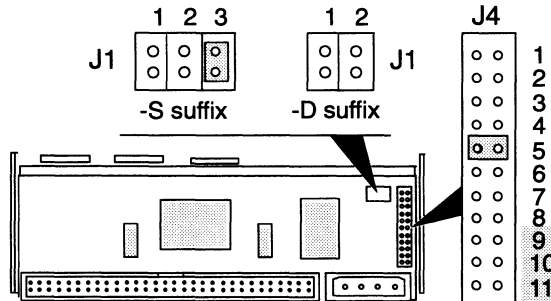

Figure 15 SCSI ID jumper settings and the location of the jumper-pin sets for the Model 61014-S or 61014-D drive (Version B)
- Once you have chosen the correct SCSI ID number, install the jumpers for that number according to the information in Figure 15.
For example, if you choose SCSI ID 1, install a jumper across jumper-pin set J4-9 as indicated in the table of Figure 15 by the word IN. Do not install jumpers across jumper-pin sets J4-10 and J4-11 as indicated by the word OUT.
- Make sure a jumper is installed across jumper-pin set J4-5 as shown in Figure 15.
- For the Model 61014-S (single ended) drive only, install a jumper across jumper-pin set J1-3 as shown in Figure 15.